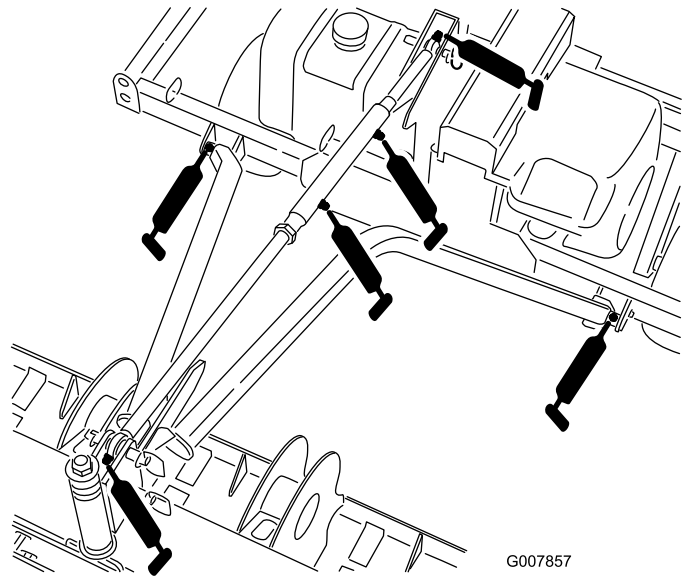

Figure 39
- Tow frame (2); refer to Figure 39.